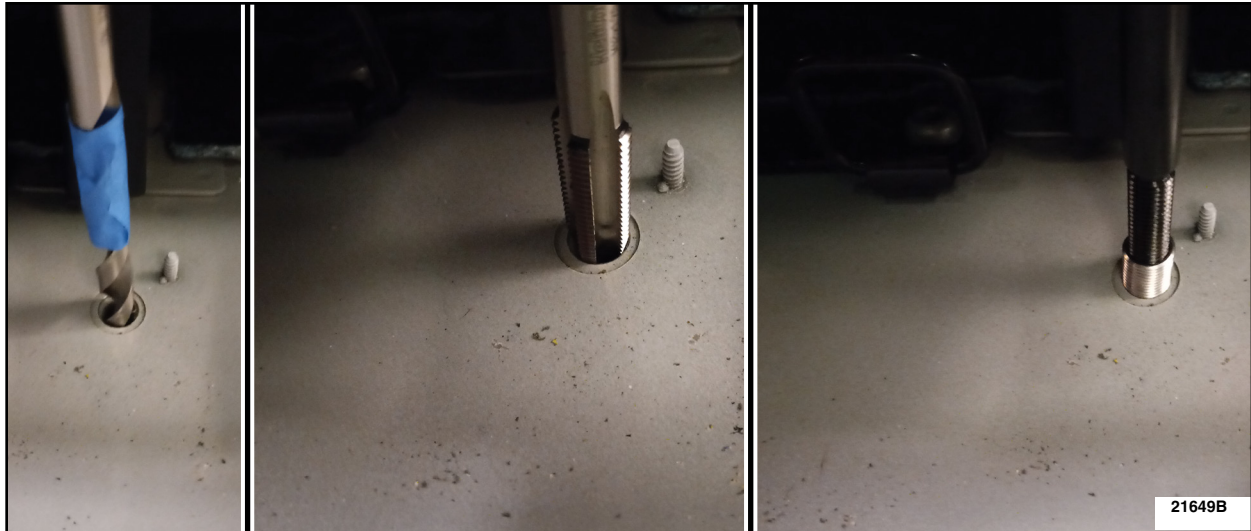

FIGURE 2
2. Using a M12 x 1.75mm thread repair insert kit, drill out – or repair the anchor bolt hole. Use the instructions contained with the kit to install the thread repair kit. See Figure 2.